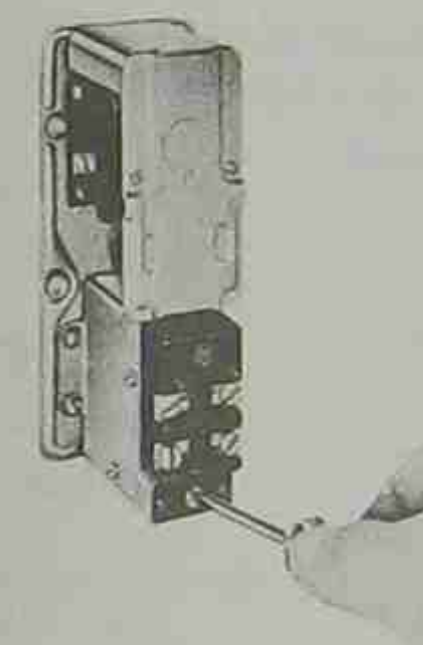

Figure 12-3 Pneumatic Timer Adjustment
For the timer to time when power is applied (coil energized), the solenoid unit—coil, core piece, operating plunger (11). This causes the bellows (1) and bellows spring (3) to collapse the bellows, and dispel the air out through the release valve (9). When the coil is energized, the armature is attracted magnetically to the pole pieces, and lifts up and off the bellows assembly. Air now comes in through the air inlet filter, passed the needle valve (2), and fills the bellows with air. The incoming air expands the bellows upward, pushing on the timing mechanism plunger (4). As the plunger rises, it causes the over-center toggle mechanism (5) to move the snap-action toggle blade (6) upward. This picks up the push plate (7) that carries the movable contacts (8) to open the N.C. contact and close the N.O. contact. The time it takes for the bellows to fill with air and activate the contact mechanism is controlled by adjusting the needle valve in the air orifice. The valve is adjusted with a screwdriver as shown in Figure 12-3. A counterclockwise rotation moves the needle valve further into the air orifice, restricting airflow into the bellows, slowing the airflow, and increasing the time it takes for the bellows to expand and operate the contact mechanism. Conversely, clockwise adjustment of the needle valve decreases the time it takes the bellows to fill with air and activate the contacts after the armature has been lifted off the bellows mechanism.